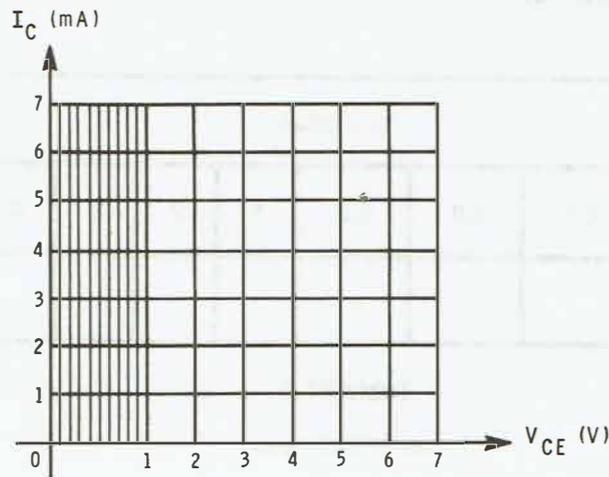

Figure E1-3
16. Plot the values of I_C and V_{CE} in Tables E1-2, E1-3, and E1-4 on the graph paper provided in Figure E1-3. Label the curves $I_B = 10\mu\text{A}$, $20\mu\text{A}$, and $30\mu\text{A}$ respectively. In Figure E1-3, note the expanded scale for values of V_{CE} less than 1V.